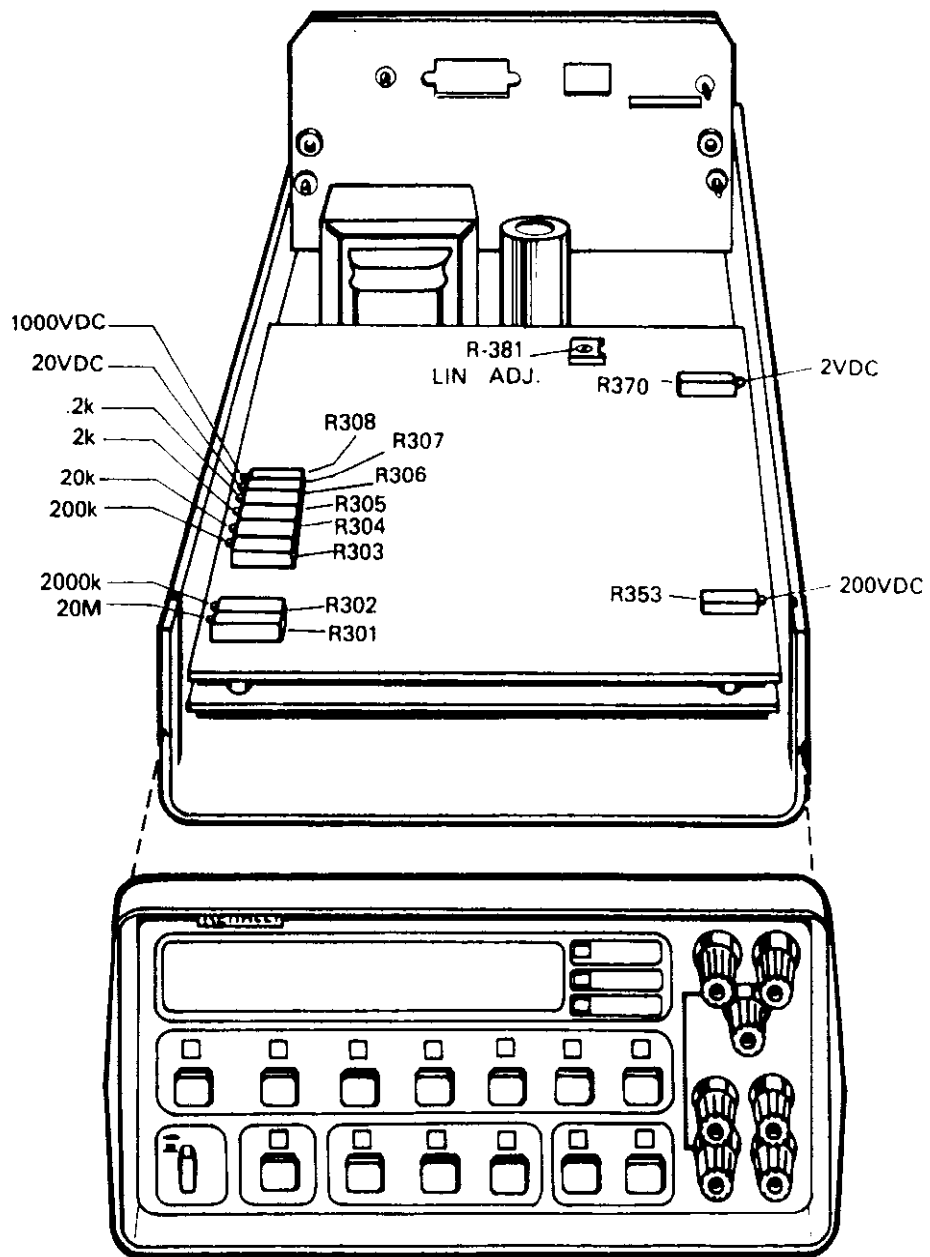

Figure 8-1. Adjustment Locations
- A. Refer to Table 8-2 and perform the listed adjustments in the sequence indicated. See Figure 8-1 for adjustment locations. Perform steps 1 through 11 to calibrate the basic Model 192. If the Model 1910 AC voltage Option is installed, also perform steps 12 through 19. If the Model 1920 AC voltage option is installed refer to the Model 1920 Instruction Manual for calibration instructions.